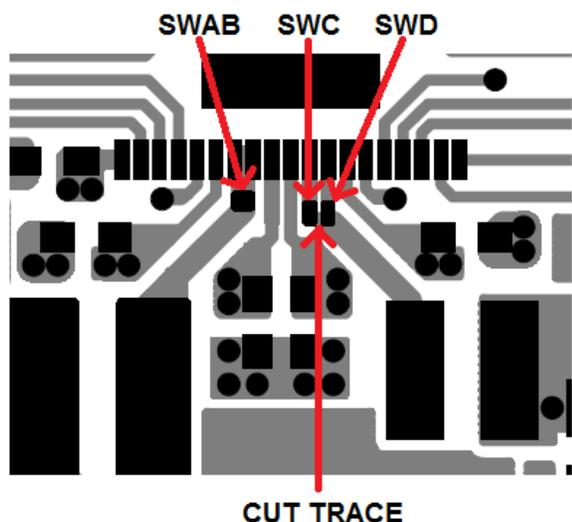
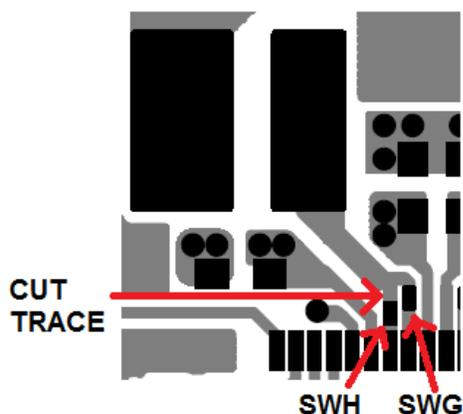

Figure 5. Cut SWC and SWD Connection Near Pins
Figure 6. Cut SWH Trace Between L4 and SWH Pin
4. Any switch node associated with a V_{IN} trace that was cut will also need to be cut. The SWC/SWD traces and SWD/SWF traces can be cut in between the pads near the SW pins as shown in Figure 5. The SWG/SWH traces only need to be cut for the 4112 configuration. SWH needs to be cut between the SWH pin and L4 as shown in Figure 6.
6. All switch nodes of adjoining power stages will need to be connected together. Each power stage has a pad to solder a small bus wire, 28AWG. The switch node pads are also shown in Figure 5 and Figure 6. Carefully solder a bus wire as short as possible between adjoining power stages.